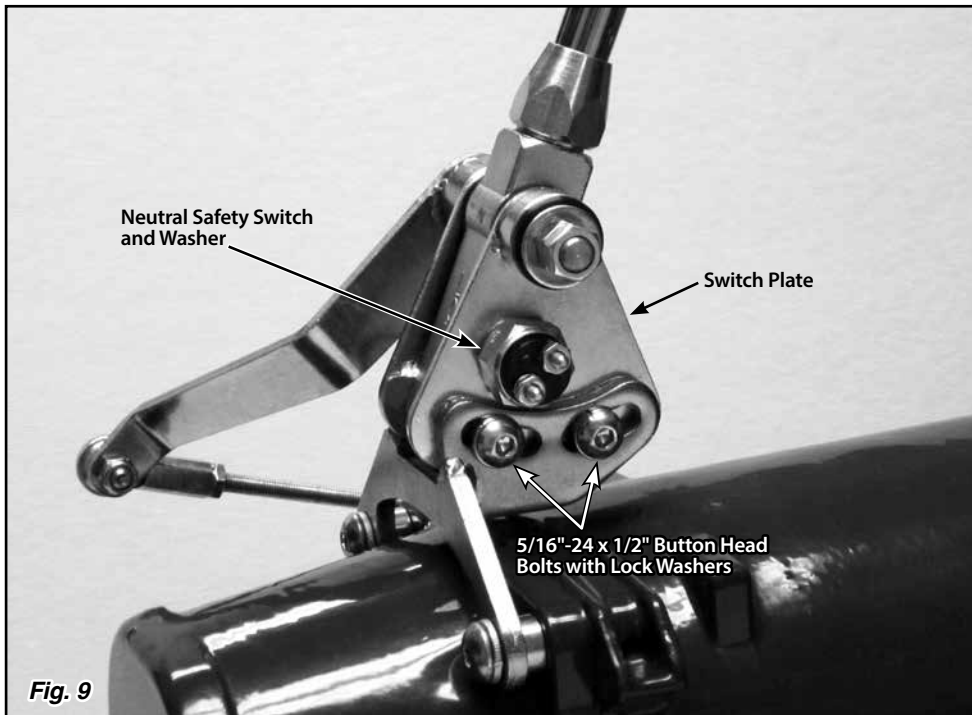

Fig. 9
Step 14: Remove the neutral safety switch and washer (**Fig. 9**) from the passenger side of the shifter using a 7/8" wrench or socket.
Step 15: Loosen, but do not remove, the two 5/16"-24 x 1/2" button head bolts and lock washers that connect the passenger side welded banana bracket to the switch plate (the bolts are in curved, slotted holes). **Fig. 9**